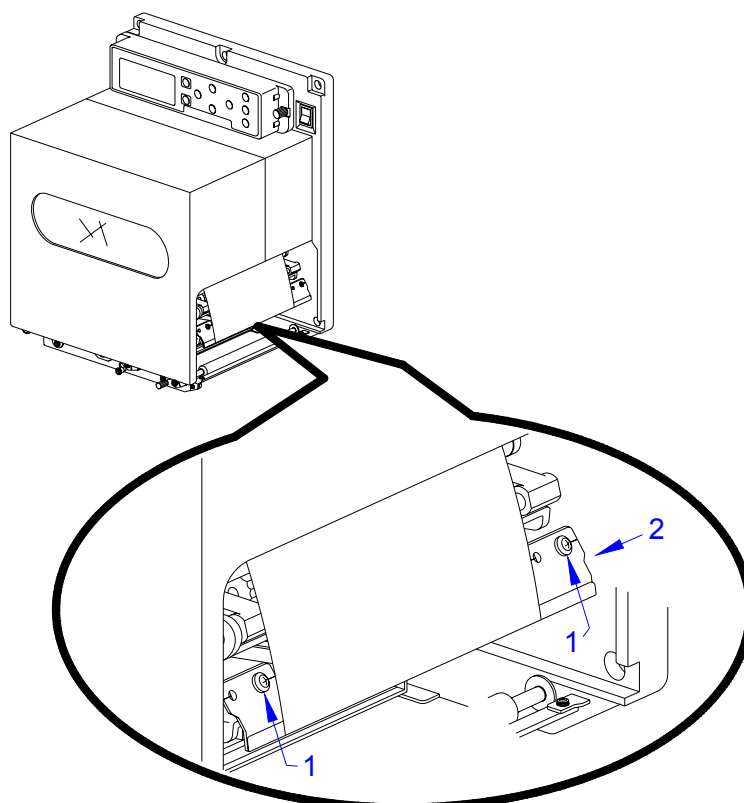

Figure 6-8, Ribbon Guide Alignment
- 3 Loosen one of the two set screws (1, Figure 6-8) and move the free end of ribbon guide (2) upward or downward as necessary until the ribbon appears to uncrease.
- 4 Retighten loose set screw (1) while holding ribbon guide (2) in place.